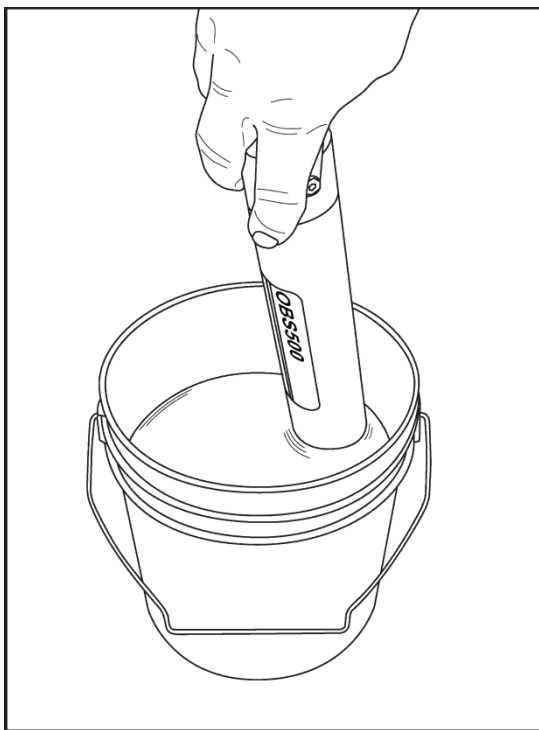

FIGURE 7-7. OBS500 in 500-TU AMCO Clear® turbidity standard in 100-mm black polyethylene calibration cup
3. Position the OBS sensor in the cup as shown in FIGURE 7-7 and record 10-second averages of the low- and high-range outputs. Record the average outputs on the calibration log sheet.